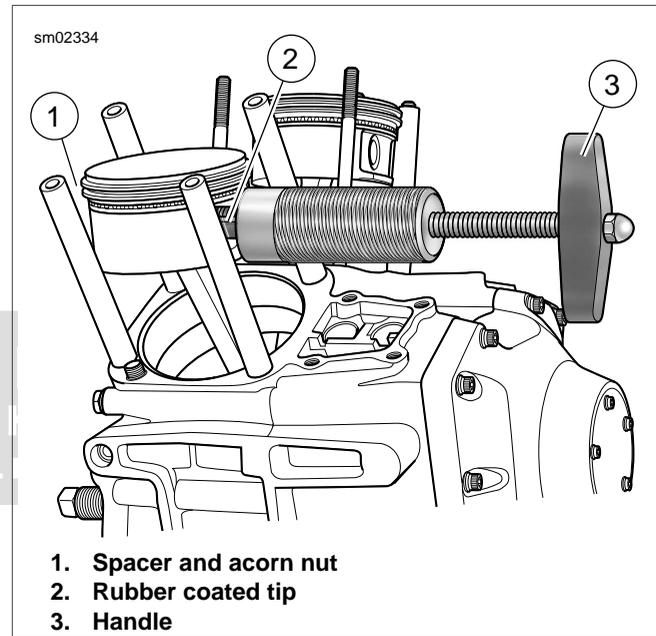

Figure 3-24. Piston Pin Remover (Part No. HD-42320-A)
3. See Figure 3-24. Remove the piston pin. If piston pin is difficult to remove, use PISTON PIN REMOVER (Part No. HD-42320-A).
- b. Slide rod end through piston pin. Install spacer and acorn nut (1) on end of rod.
- c. Position rubber-coated tips (2) of tool on flat each side of pin bore.
- d. Turn handle (3) in a clockwise direction until piston pin is pulled free of bore.